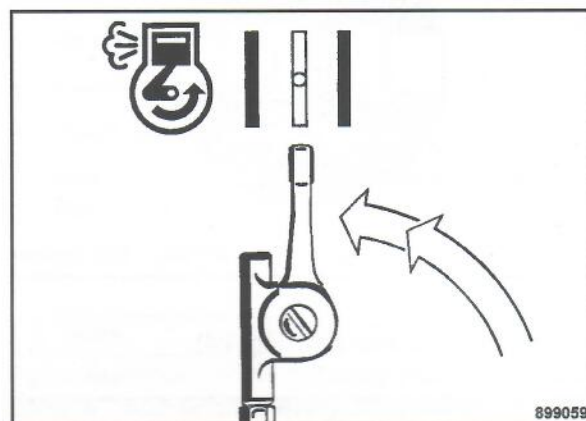

Fig. 31
- Slowly open the choke (Fig. 31).